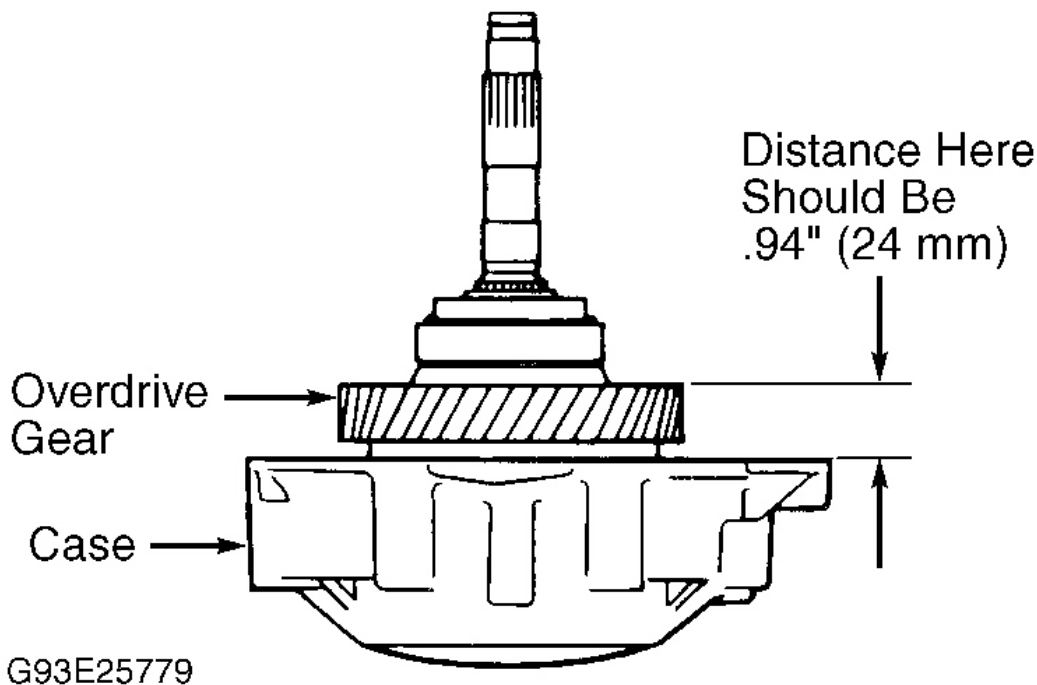

Fig. 46: Checking Distance Between Overdrive Gear & Case
9. While turning overdrive planetary gear clockwise, install gear on overdrive direct clutch. If overdrive planetary gear is properly installed, clearance between counter drive gear and overdrive case will be .94" (24 mm). See Fig. 46 .